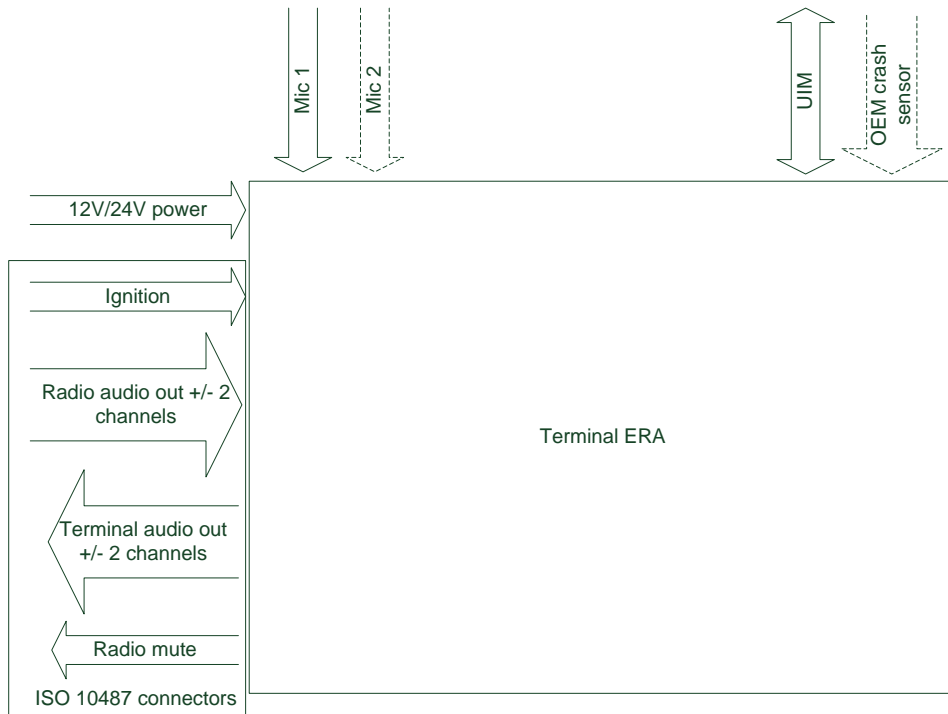

Figure 1: Terminal connection
3.12.1.1 Terminal connection in aftermarket configuration defined in Figure 1.